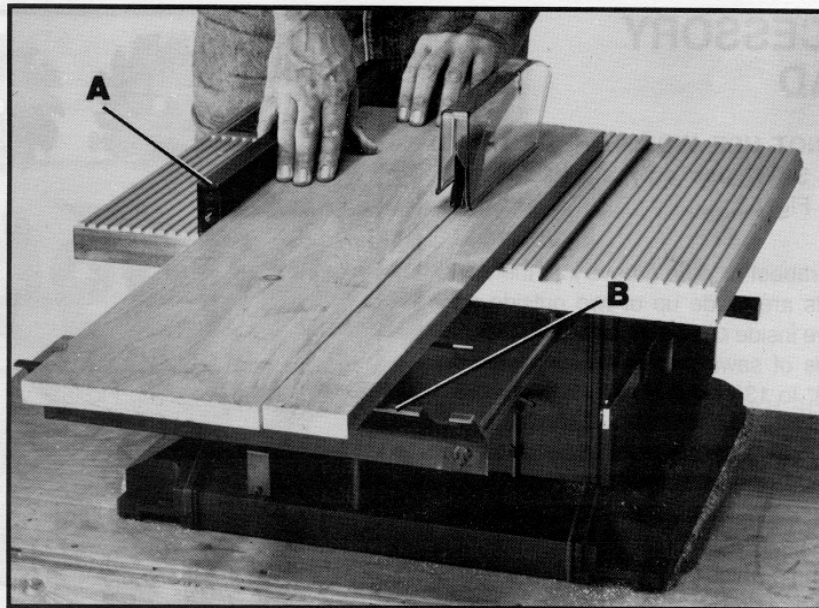

Fig. 50
Ripping is the operation of making a length-wise cut through a board, as shown in Fig. 50, and the rip fence (A) is used to position and guide the work. One edge of the work rides against the rip fence while the flat side of the board rests on the table. Since the work is pushed along the fence, it must have a straight edge and make solid contact with the table. The saw guard must always be used. The guard has anti-kickback fingers to prevent kickback and a splitter to prevent the saw kerf from closing and binding the blade. Also note that the rear work support (B) Fig. 50, has been pulled out and supports the work at the rear of the saw table.
Start the motor and advance the work, holding it down against the fence. Never stand in the line of the saw cut when ripping. Hold the work with both hands and push it along the fence and into the saw blade as shown in Fig. 50. The work can then be fed through the saw blade with one or two hands. After the work is beyond the saw blade and anti-kickback fingers the hand is removed from the work. When this is done the work will either stay on the table, tilt up slightly and be caught by the rear end of the guard or slide off the table to the floor. Alternately, the feed can continue to the end of the table, after which the work is lifted and brought back along the outside edge of the fence. The cut-off stock remains on the table and is not touched with the hands until the saw blade is stopped, unless it is a large piece allowing safe removal. When ripping boards longer than three feet, it is recommended that the work support (B) Fig. 50, be used at the rear of the saw to keep the workpiece from falling off the saw table.